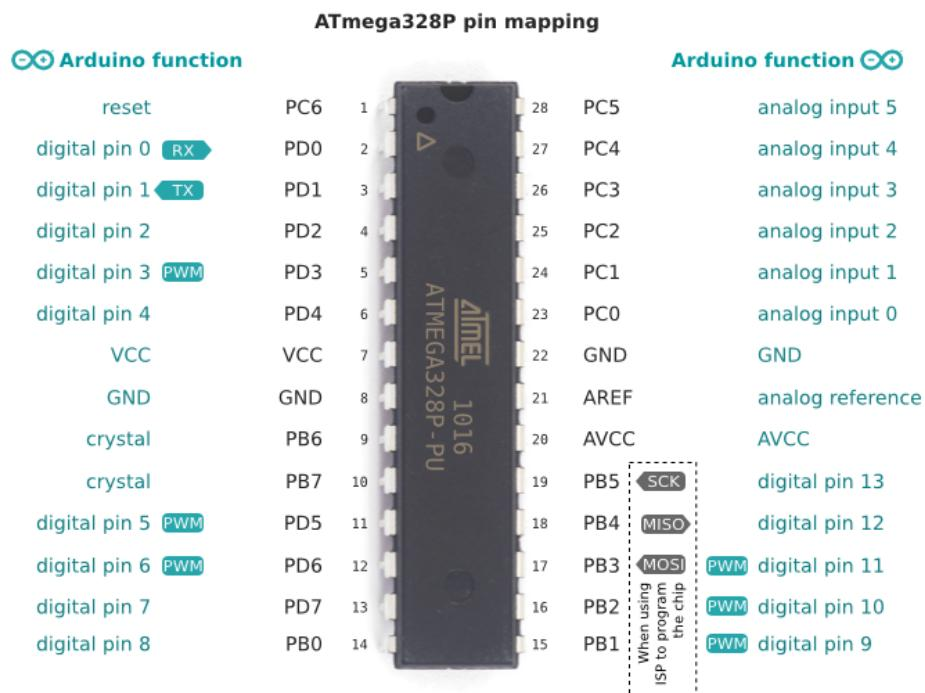

Figure 9: Pin mapping for the ATmega328P microcontroller. Source: Link.
3. In this example, we are actually not missing any schematic symbol. Just for the sake of demonstrating how to use the library editor, we will build our own version of the ATmega328P microcontroller IC. Fig. 9 shows the pin diagram of the ATmega328P.